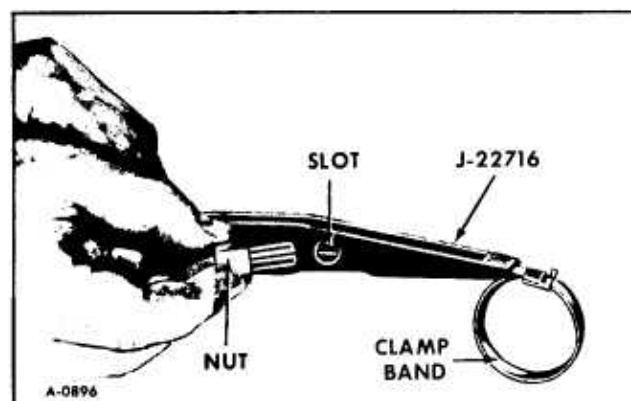

Figure 15—Assembly of J-22716 to Band
6. Remove retaining ring (figure 15).
13. With service clamps over seals in correct position, follow procedures listed below and using Figures 15–19.
a. Pull clamp to desired size and insert band into Tool J-22716. Then insert nut into tool with band in slot of nut as shown in Figure 15.